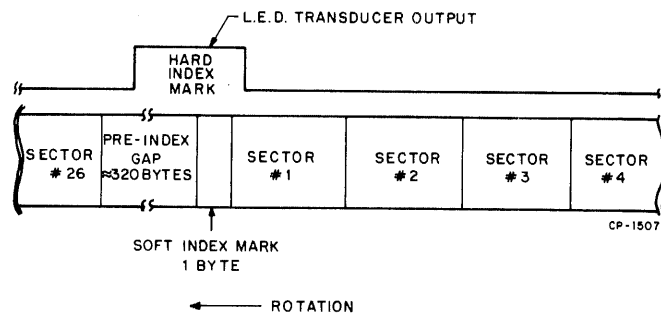
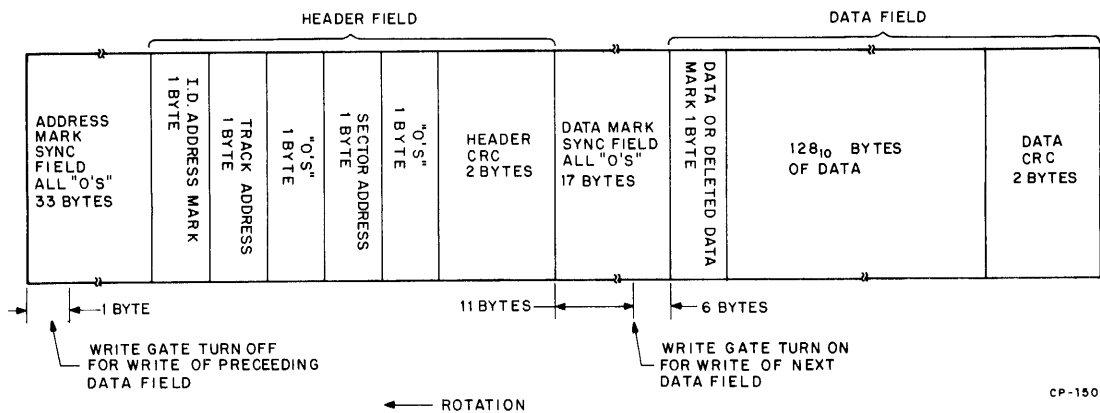

Figure 1-10 Track Format (Each Track)
Figure 1-11 Sector Format (Each Sector)
Data is recorded on only one side of the diskette. This surface is divided into 77 concentric circles or “tracks” numbered 0–76. Each track is divided into 26 sectors numbered 1–26 (Figure 1-10). Each sector contains two major fields: the header field and the data field (Figure 1-11).
**1.3.3.2 Data Field Description** – The data field is broken into 131 bytes of information and is preceded by a field of zeros for synchronization and the header field (Figure 1-11).